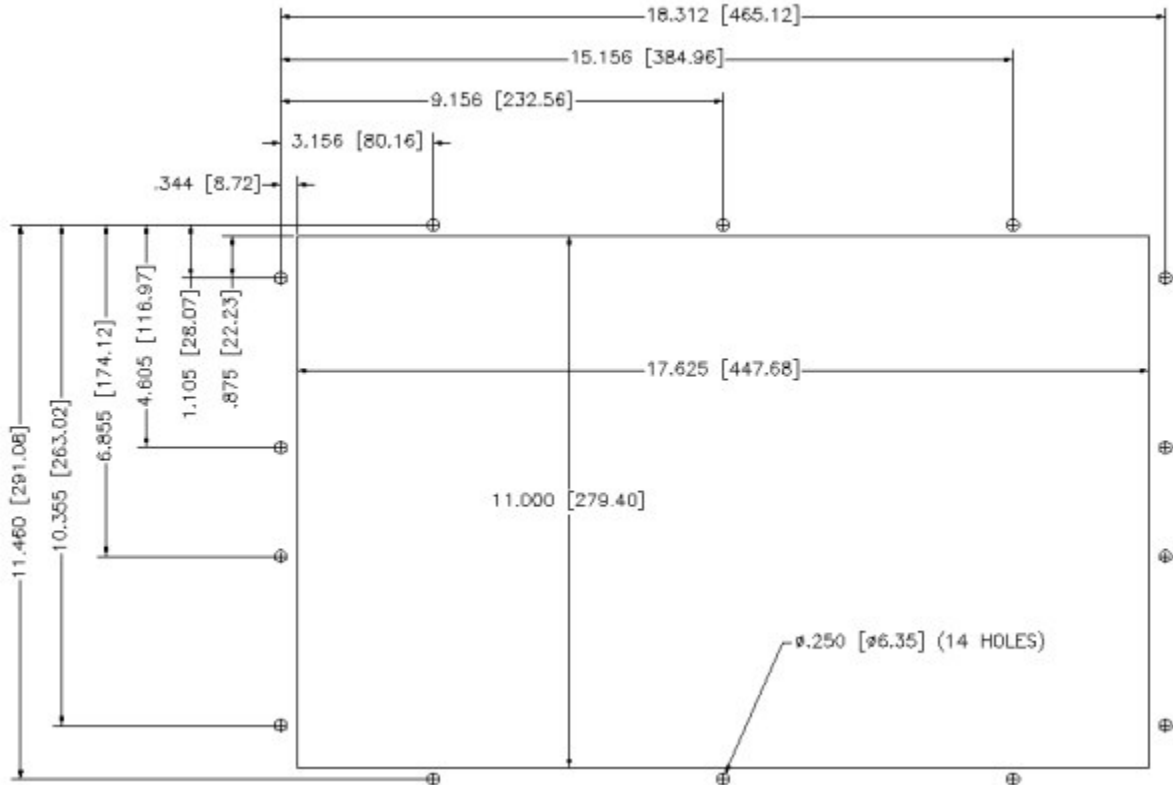
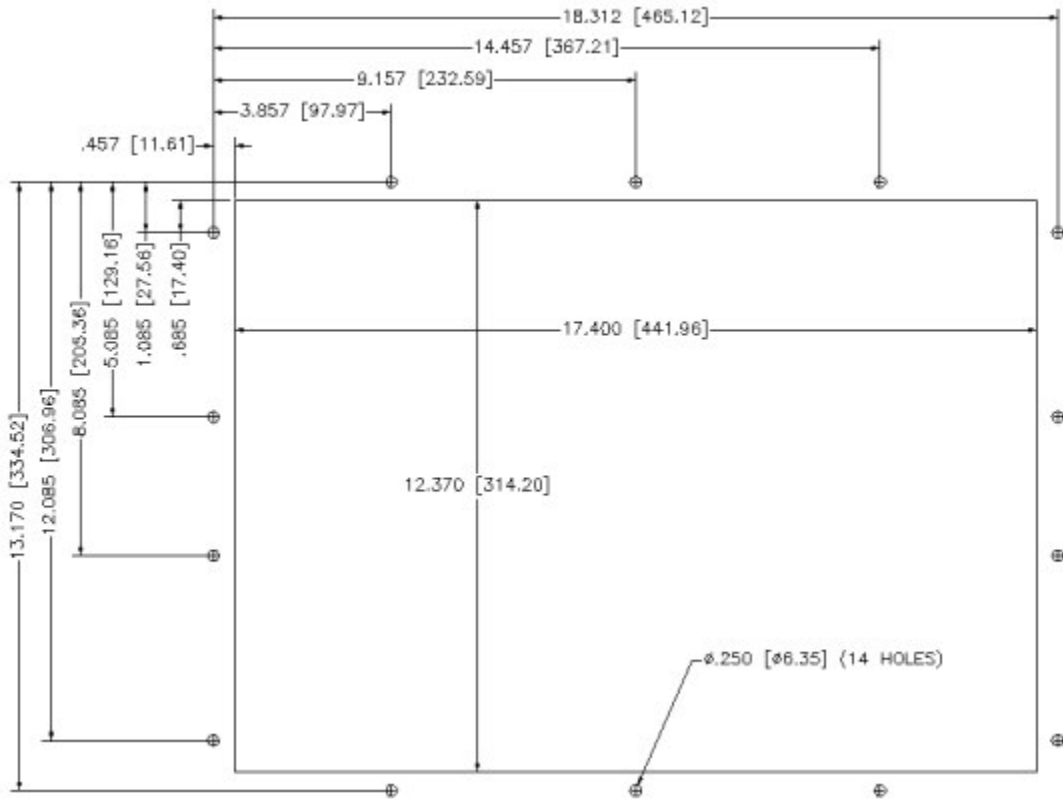

Figure 2-1. 5012KPM(T) system cutout dimensions (inches [mm])
Figure 2-2. 5015KPM(T) system cutout dimensions (inches [mm])
2. Create a cutout in the enclosure (see Figure 2-1 and Figure 2-2 in *System Cutout Dimensions*).
5. Turn on power to the KPM(T) monitor, and then to the host computer. The system will boot up the installed operating system.
Figure 2-1 shows the cutout dimensions for the 5012KPM(T). Figure 2-2 shows the cutout dimensions for the 5015KPM(T).